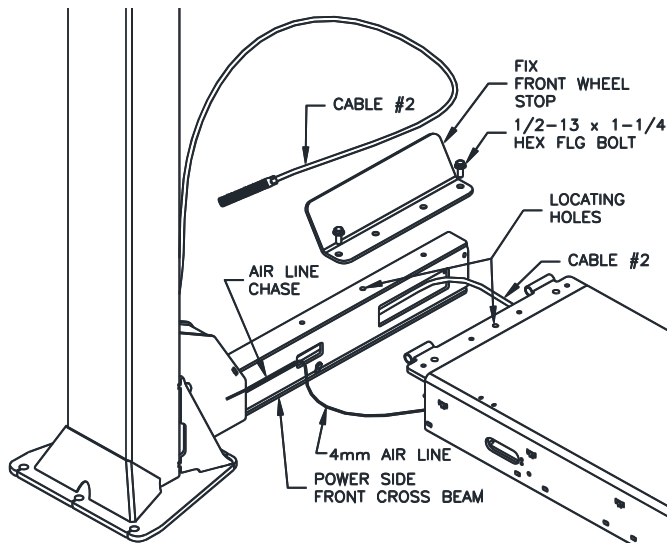
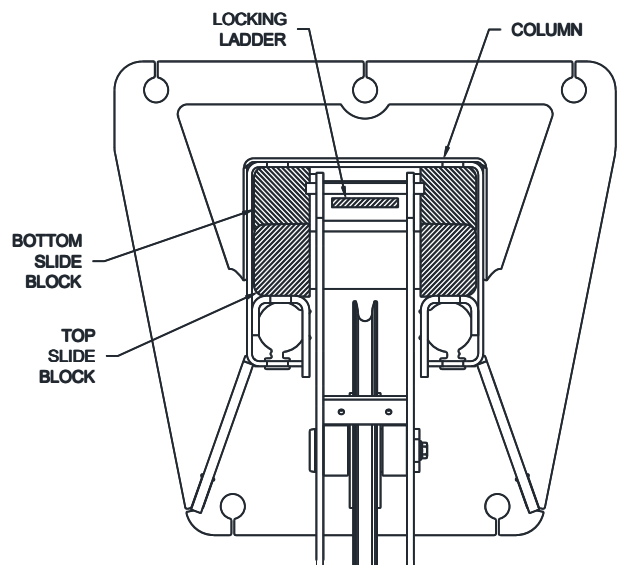

Fig 17 – Front CrossBeam Installation
Fig 19 – Locking Ladder Orientation
- 15) The runways to crossbeam positioning can be located using a tapered punch to pry on the locating holes in the runway and crossbeam **NOTE:** The locating holes are not threaded. See Fig 17.
- 16) Attach the rear crossbeam to the runways (Fig. 5) with 1/2 x 1-1/4" lg. flange head bolts. (Leave the airlines hanging out the bottom of the runway at this time. They will be fed in through the runway after the lift is raised.) **The outermost runway holes should be in line with the outermost holes in the top of the crossbeam, see Fig. 17.** Do not torque bolts yet.
- 36) The runways to crossbeam positioning can be located using a tapered punch to pry on the locating holes in the runway and crossbeam **NOTE:** The locating holes are not threaded. See **Fig 17**.
- 37) Attach the rear crossbeam to the runways (**Fig. 5**) with 1/2 x 1-1/4" lg. flange head bolts. (Do not torque bolts yet. For Flat decks, install the wheel stops before tightening runway bolts in **Step 12**. See **Fig 17**. Alignment Wheel Stop will be installed in a later step.
- 43) Ensure that the power side front crossbeam is touching the power column base plate and stand the column up. Insert the Lock Ladder into the slot, **Fig 19**, and reinstall the Column Top Plate and pins. Move the column into position and remove the crossbeam sheave. Reach in through the small access hole in the crossbeam tube, **Fig 17**, and pull out the 6 ft. roll of 4mm dia. plastic airline connected to the air cylinder at the end of the crossbeam.
- 44) Remove the crossbeam sheave guard, sheave, Pin etc. Feed **Cable #2** into the crossbeam's large access hole and back out the top, **Fig 17**. Insert the air line into the first Ring in the runway end. See **Fig 6 and 7** for ring location.